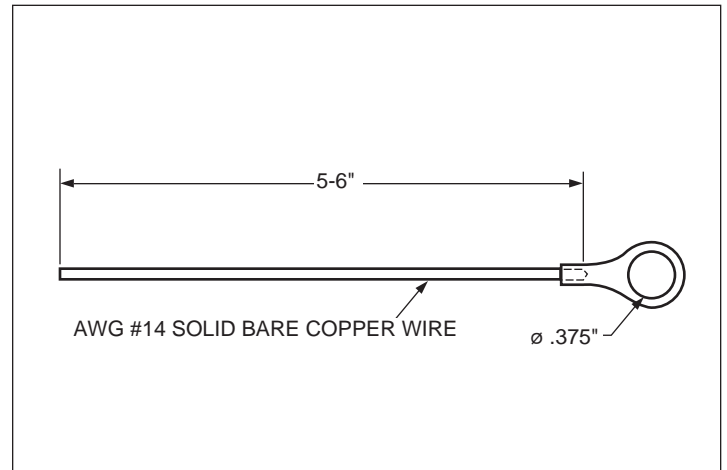

Figure 4
3. Create a pigtail by crimping a Ring Tongue Terminal to a short piece of #14 wire (See Figure 4) and attach terminal to one of the studs as described in 1 above. Secure the wire to the Feed-Thru Insert or the Bushing Well Insert grounding tab as shown in Figure 3.